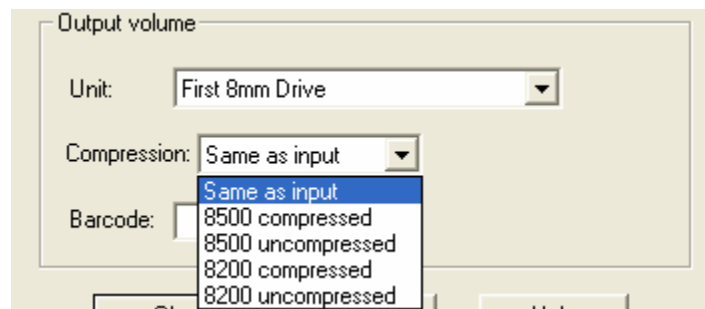

Figure 21: Open Unit/Output Volume Block with 8mm Drive
- If the output unit being opened is of type media tape and supports compression or multiple densities, the Compression combo-box is enabled to allow selection of the desired density, example in image below is of an “8mm Drive”. Please note that different tape drives have different compression options. This block is shown in Figure 21: Open Unit/Output Volume Block with 8mm Drive Figure 21.